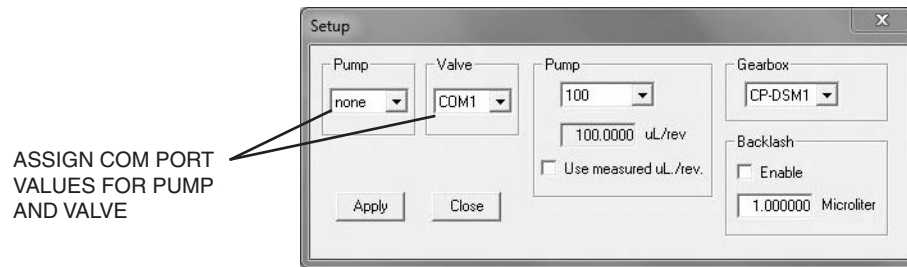

Figure 6: Select COM ports for pump and valve
3. Select the correct COM port for the pump and valve. If no valve is being used, select None. (**Figure 6**)